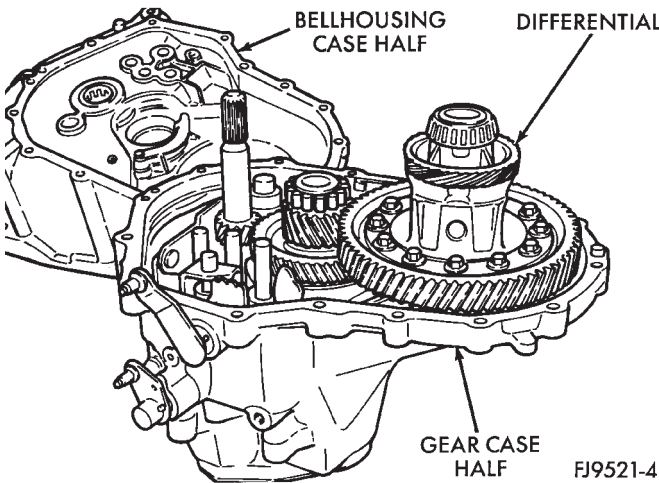

Fig. 42 Bellhousing Case Half Removal
(4) Remove bellhousing half from gear case half (Fig. 42).